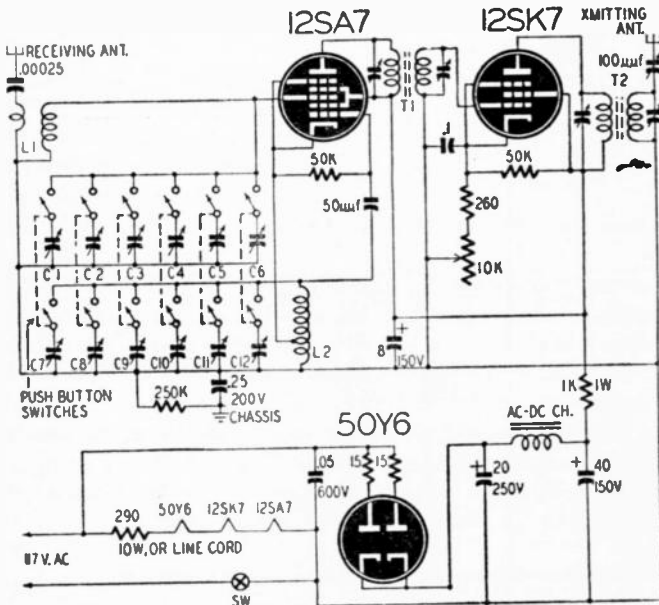

Fig. 201
A. The diagram shown in Fig. 201 should meet your requirements. It is equipped with six push-buttons which will allow you to tune in any one of six pre-selected stations.